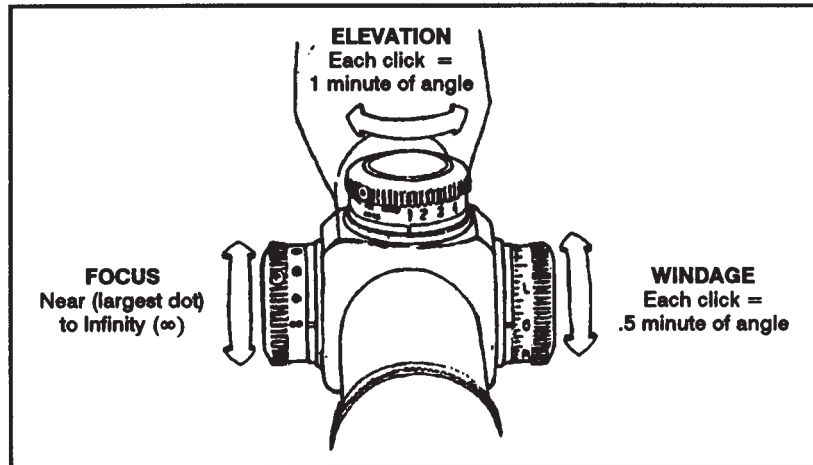

Figure 2-18. Focus, elevation, and windage adjustment dials.
(1) **Focus adjustment dial.** The focus adjustment dial (Figure 2-18) is on the left side of the scope barrel. This dial has limiting stops with the two extreme positions shown by the infinity mark and the largest dot. The focus adjustment dial keeps the target in focus. If the target is close, the dial is set at a position near the largest dot.
(2) **Elevation adjustment dial.** The elevation adjustment dial (Figure 2-18) is on top of the scope barrel. This dial has calibrated index markings from 1 to 10. These markings represent the elevation setting adjustments needed at varying distances: 1 = 100 meters, 3 = 300 meters, 7 = 700 meters, and so on. Each click of the elevation dial equals 1 minute of angle.
(3) **Windage adjustment dial.** The windage adjustment dial (Figure 2-18) is on the right side of the scope barrel. This dial is used to make lateral adjustments to the scope. Turning the dial in the indicated direction moves the point of impact in that direction. Each click on the windage dial equals .5 minute of angle.